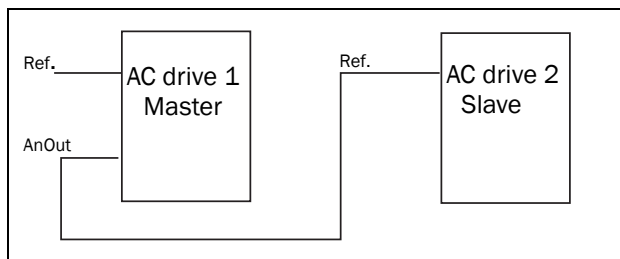

Fig. 112
- a reference signal for the next AC drive in a Master/Slave configuration (see Fig. 112).